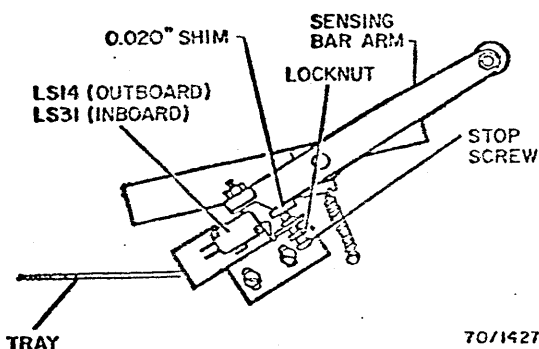

Fig. 3-68. Sensing Bar Switch LS14 Overtravel
12. Place 0.020 shim stock between the sensing bar arm and the stop screw (Fig. 3-68).